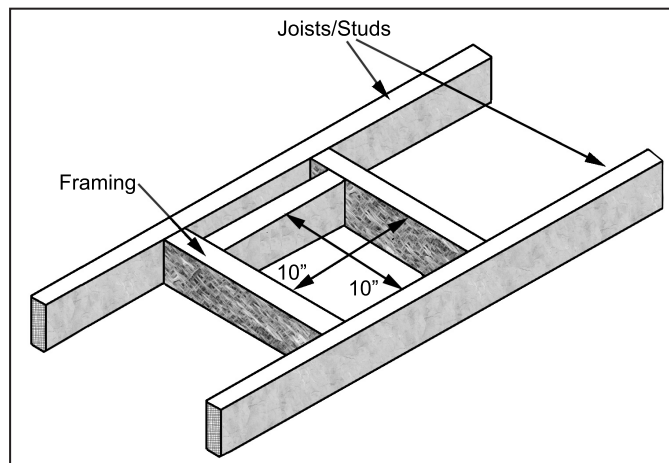
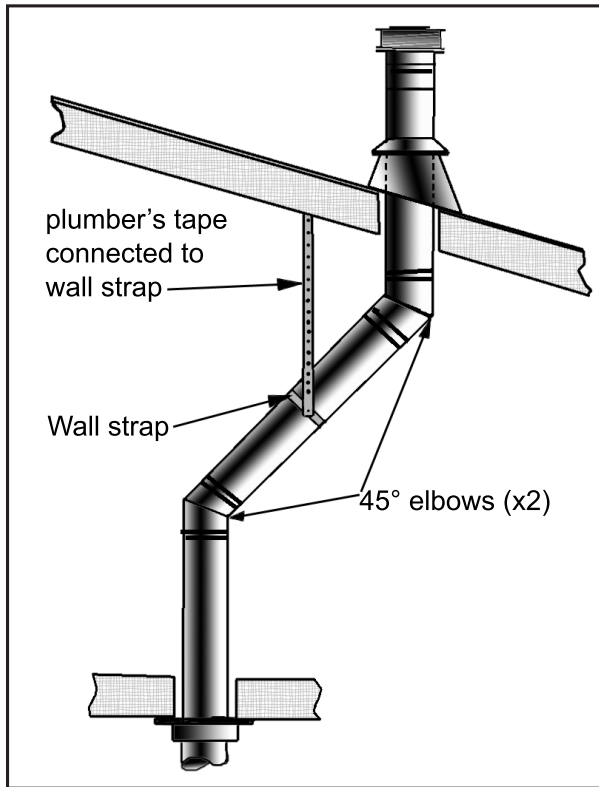
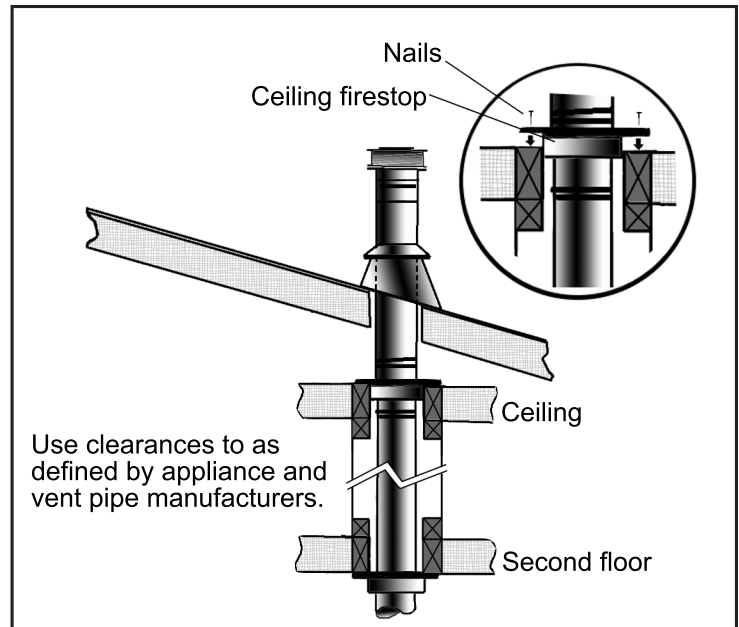

Figure 29. Vent Framing Through Wall/Ceiling
Figure 35: Use of Wall Straps.
Figure 36: Multi-Story Vent Pipe Installation.
4. Frame the hole as shown in Figure 29.
5. Trim the wall thimble to match the wall thickness as necessary. Install the wall thimble and secure it to the inner wall frame using four (4) 1½" wood screws. If a wall is greater than 8" (203mm) in depth, the clearance above the flex must be 4¾" (111mm)
A 10" (254 mm) x 10" (254 mm) frame (see Figure 29) will assure the proper support and spacing for the vent pipe as it passes through the wall. Installations in Canada require that a wall thimble be used for passing through walls and ceilings. All sealing and vapour barriers must comply with local building codes.
Step 3. With the pipe in the correct position and attached to the fireplace, mark the wall for a 10 inches (25.4 cm) x 10 inches (25.4 cm) square hole (see Figure 29). The center of the hole should match the center line of the horizontal pipe. Cut and frame the hole in the exterior wall where the vent will be terminated. If the wall being penetrated is made of a non-combustible material (i.e. masonry or concrete) a 7 inches (17.8 cm) hole is acceptable.
Step 3. To install the Round Support Box/Wall Thimble in a flat ceiling, cut a 10 inch (25.4 cm) square hole in the ceiling, centered in the hole drilled in Step 2. Frame the hole as shown in Figure 29.
- (1)** If an offset is necessary in the attic to avoid obstructions, it is important to support the vent pipe every 3 feet (914 mm), to avoid excessive stress on the elbows, and possible separation. Wall straps are available for this purpose (see Figure 35).
- (2)** When ever possible, use 45° degree elbows instead of 90° degree elbows. The 45° degree elbow offers less restriction to the flow of flue gases and intake air.
- (3)** For multi story installations; a ceiling firestop is required at the second floor, and any subsequent floors (see Figure 29). The opening should be framed to 10" (254 mm) x 10" (254 mm) inside dimensions, in the same manner as shown in Figure 36.
- (4)** Any occupied areas above the first floor, including closets and storage spaces, which the vertical vent passes through, must be enclosed. The enclosure may be framed and sheet-rocked with standard building materials. However consult the appliance manufactures installation instructions for the minimum allowable clearance between the outside of the vent pipe, and the combustibile surfaces of the enclosure. Do not fill any required air spaces with insulation.